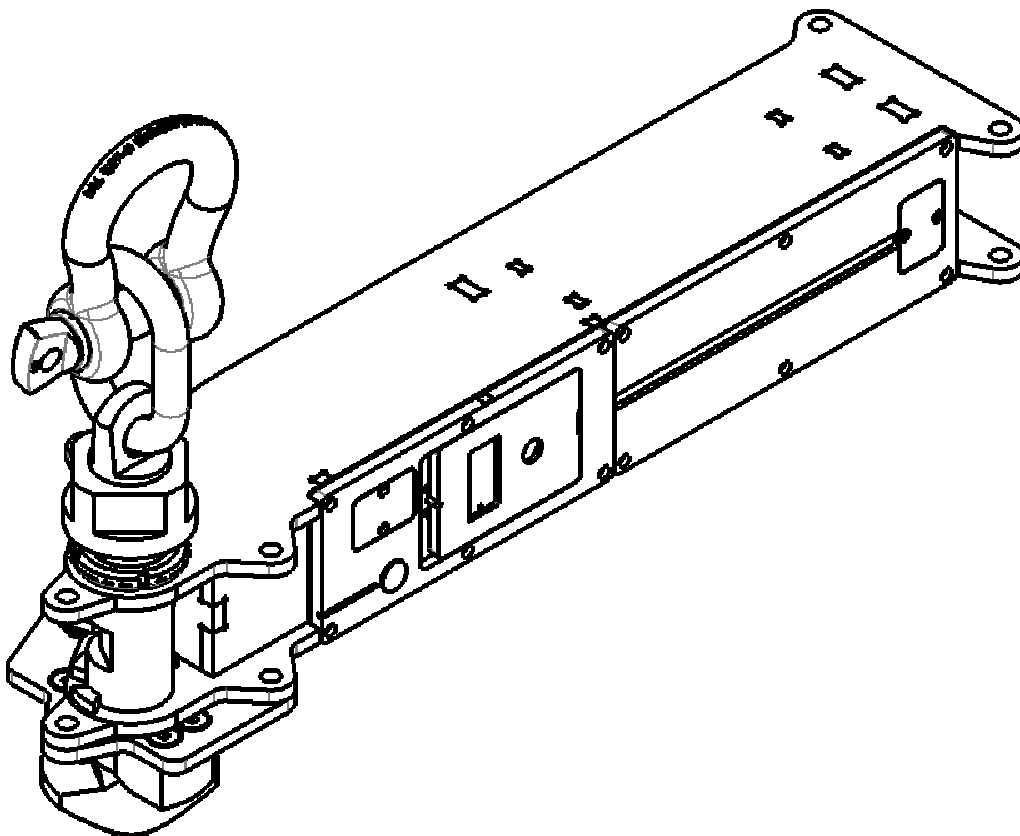

Figure 22 - NICO with eyebolt and shackle
**Note:** Generally, a shackle will be used to couple the NICO equipment with the sling/chain of the load-lifting device (*Figure 22 - NICO with eyebolt and shackle cáncamo y grillete and shackle*).